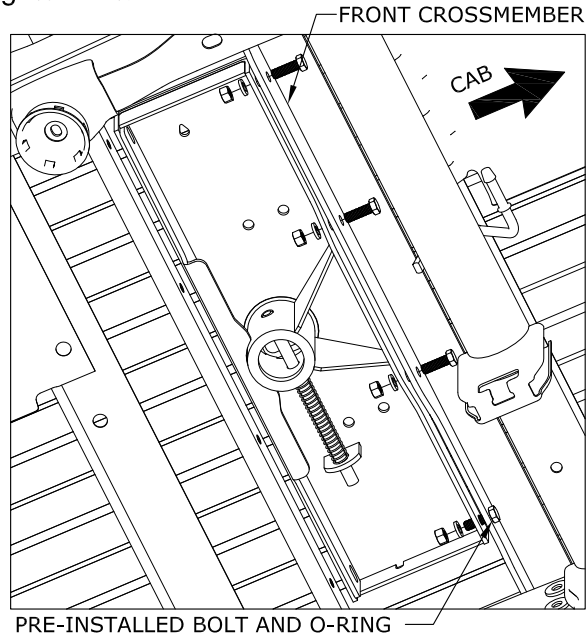

FIGURE B10: View under the center section looking from in front of the axle on the passenger side.
- 5. Attach the front cross member to the center.** Slide the front cross member back against the center section so that the bolt installed previously in the front cross member goes into the center section hole directly across from it. Line up the rest of the holes and attach the two members with $\frac{1}{2}$ X $1\frac{1}{2}$ " long bolts, lock washers, and nuts as shown in figure B10. Hand tighten nuts.